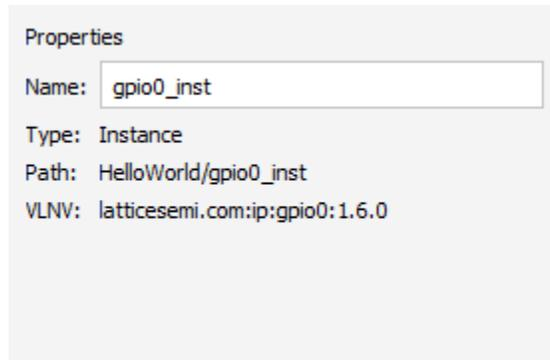

Figure 2.46. Object Properties
- Select the object from the List view of Design View. Information of the selected object is shown in the Properties area (Figure 2.46).